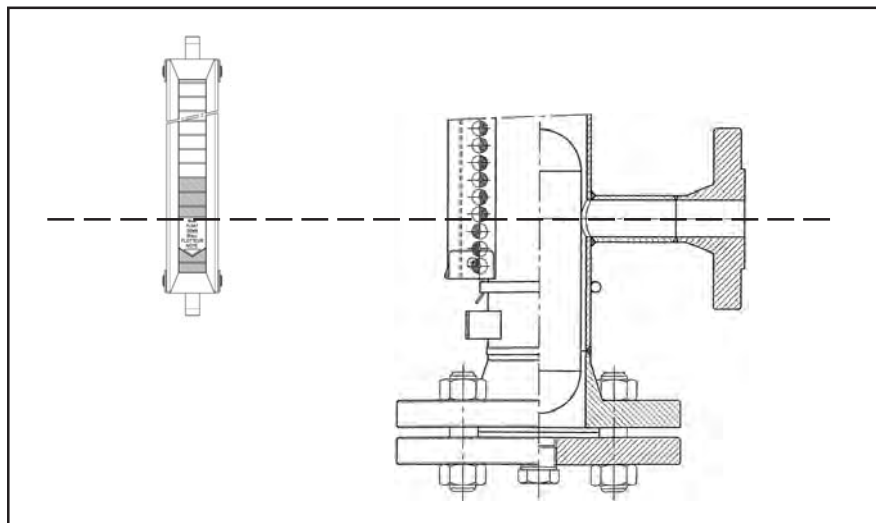

Figure 4-5 Alignment of Indicator to Gauge
- While re-installing the indicator on the gauge, make sure that the upper side of the damaged float sticker is in line with the connection tube (see Figure 4-5).
- Lock the clamps while making sure that the flap-type strip lies flat on the primary tube, by keeping the flap-type strip firmly flat on the primary tube (see Figure 4-5).